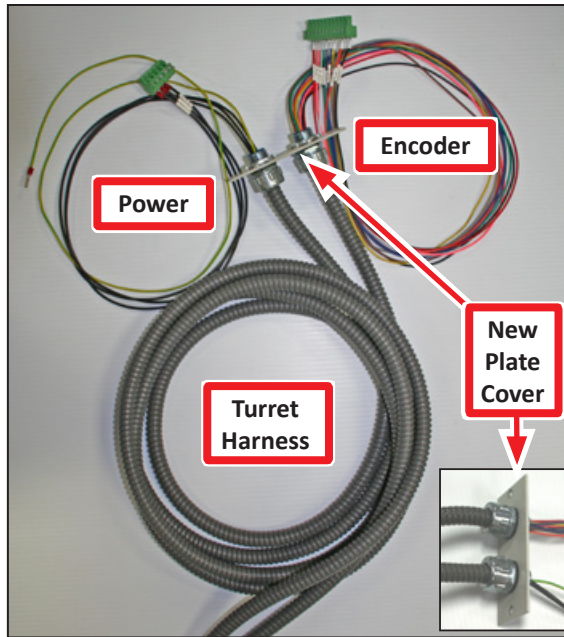
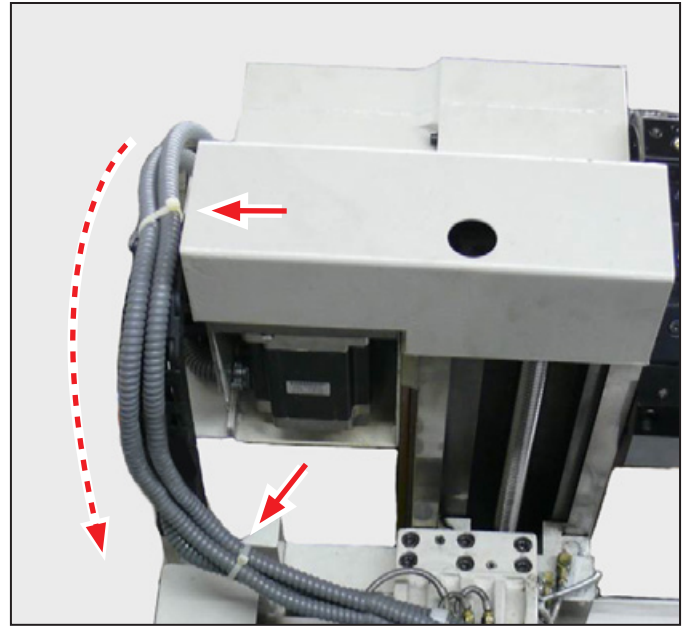

Figure 4
Figure 5
2. Route the Turret Harness (see **Figure 4**) over the back of the lathe; use two Cable Ties (included) to secure in locations shown in **Figure 5**.